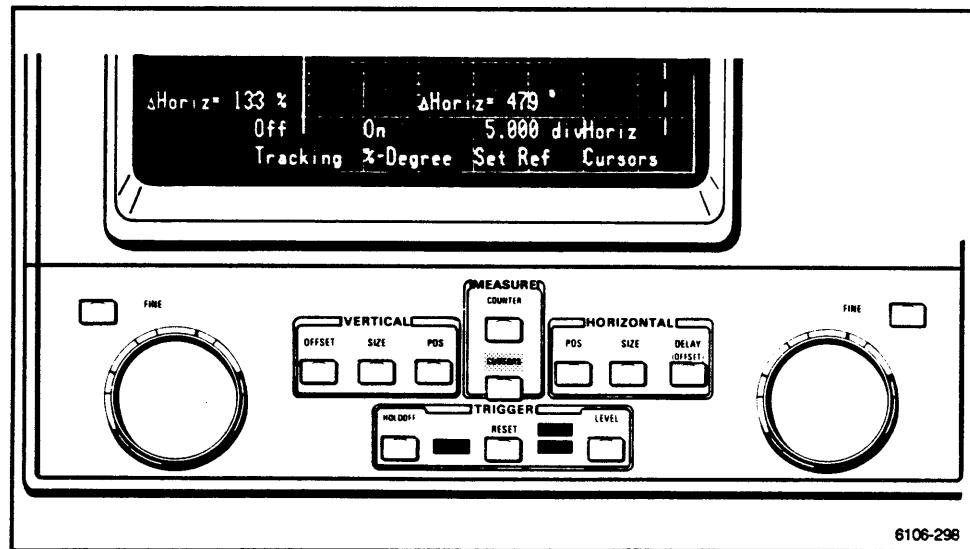

Figure 2-99. Cursor Menu with Horizontal cursors selected and **% Degree** set to On.
1. Connect the lagging signal to an input channel and set the display on/off button to on. Press the AUTOSET button, then connect the leading signal and set the display on/off button to on. Press AUTOSET again to setup the second signal. (See Fig. 2-99.)